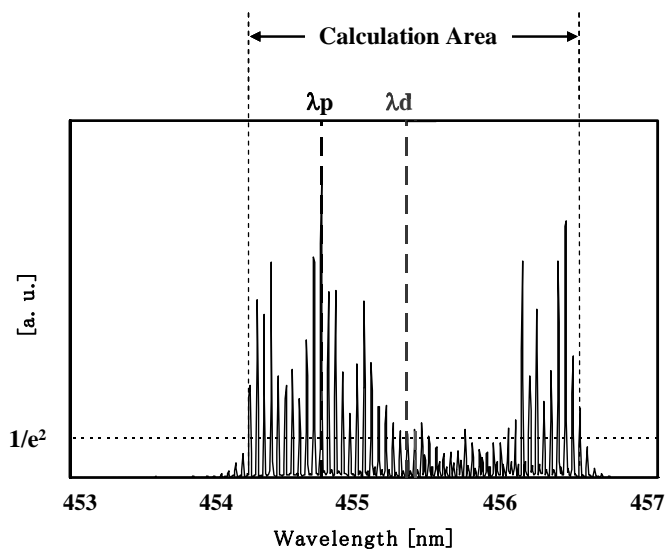

Fig.2 Definition of Dominant Wavelength
*3) λ_d is defined from trichromatic coordinate (x, y) values on chromaticity diagram calculated from the peak intensity higher than 1/e² shown in Fig.2.